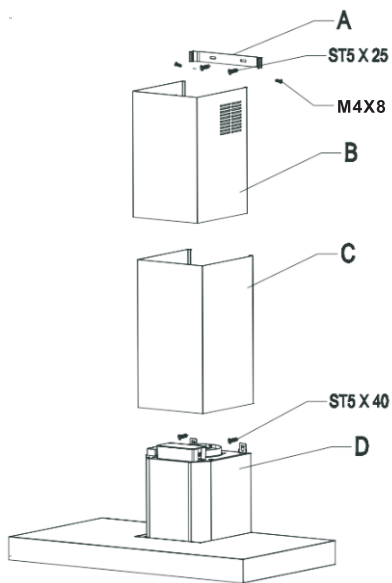

Fig. 7
- Fix the inner duct to both mounting bracket using 2(two) M3 x 12 screws provided (Fig. 7).